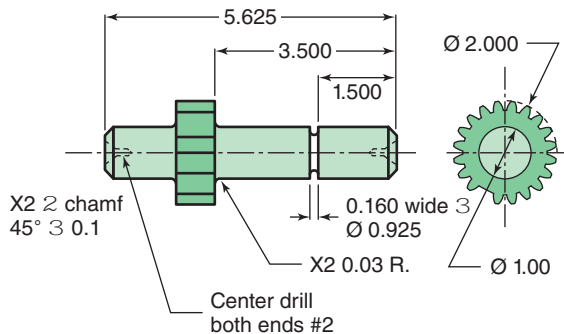

Figure 11-167 Write a plan to machine this spur gear blank before the teeth are milled on it.
- In Fig. 11-167, name the operations in sequence required to complete the spur gear shaft before the gear teeth are cut on it. It comes to your lathe as a 2.500-in.-diameter bar of CRS—cut to 8.0-in. lengths. (LO 11-1)
- For Fig. 11-167, what holding method would be correct? Explain. (LOs 11-3 and 11-5)
- Would a tailstock support be *required* when turning (Fig. 11-167)? (LOs 11-2 and 11-6)
- To complete Fig. 11-167, which cutting tools should ideally be carbide insert? Which would probably be HSS? (LO 11-4)
- To machine Fig. 11-167, calculate the correct RPM to machine the 2.0-in.-diameter gear blank and the 1.00 shaft assuming carbide cutting tools. Use Appendix III, the SS chart, and the short formula. (LO 11-6)
- If there were 20 parts to be made per Fig. 11-167, is there a more economical way to machine them on the manual lathe? Explain. (LOs 11-2 and 11-3)